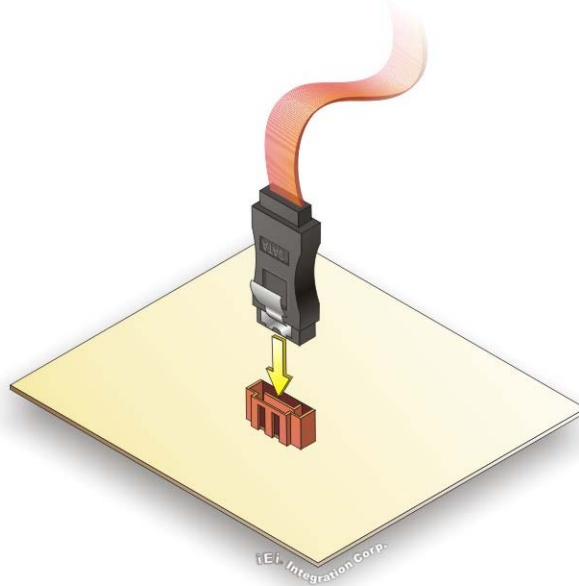

Figure 4-11: SATA Drive Cable Connection
Step 2: Insert the cable connector. Insert the cable connector into the on-board SATA drive connector until it clips into place. See **Figure 4-11**.